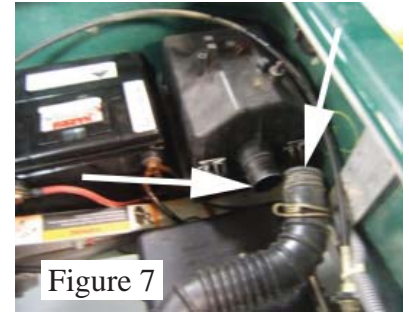

Figure 7
6. Loosen the hose clamp connecting the engine intake hose to the air cleaner box and disconnect the hose. (See Figure 7).